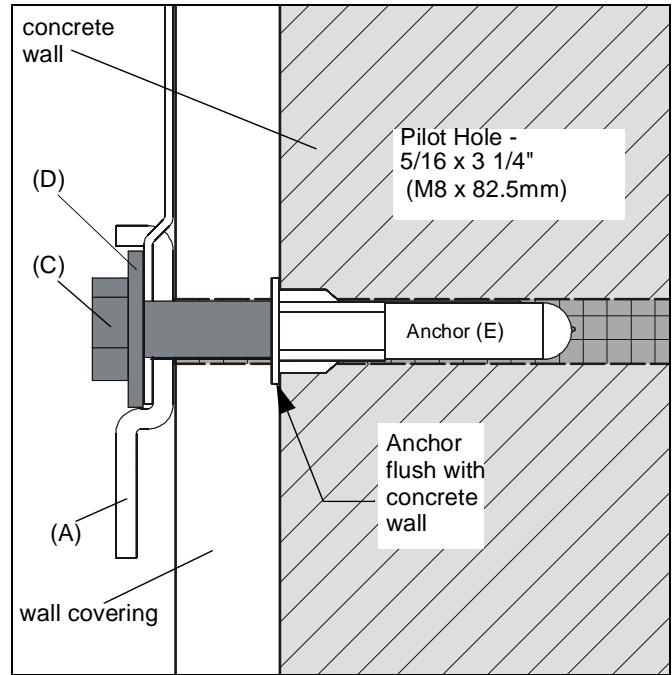

Figure 6
4. Install four or six concrete anchors (E) into drilled holes. Use a hammer to tap anchors into holes. (See Figures 6 and 7)
**IMPORTANT ! :** The anchors must be installed through any wall covering until flush with the concrete wall. (See Figure 6)